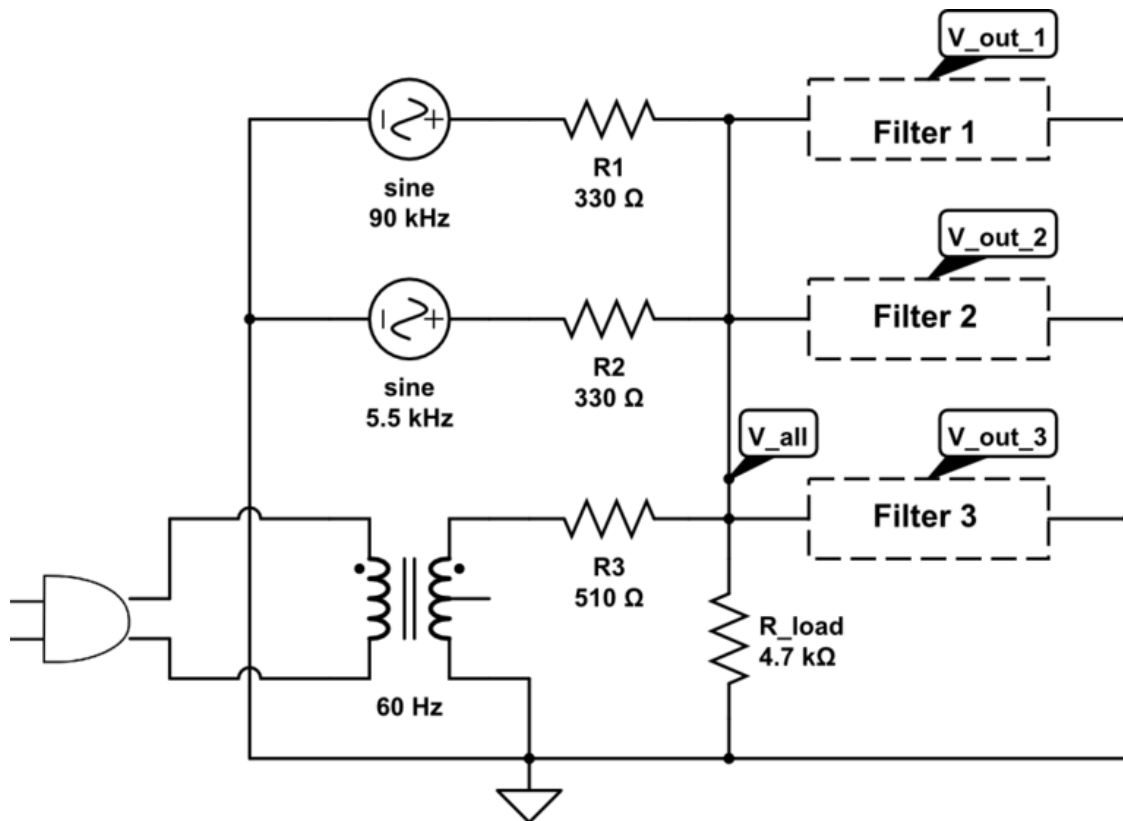

Figure 2: Merging and separating signals
- First, **without any of the filter sections**, construct the circuit shown in figure 2.